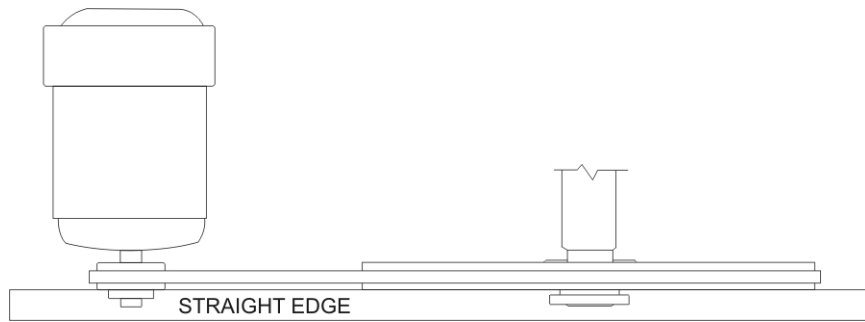

Figure 6.1: Proper Pulley Alignment
- (d) Verify that V-belts are properly aligned by checking pulley alignment. Place a straight-edge across both pulley faces. The straight edge should make contact with the pulleys in four places. See figure 6.1.